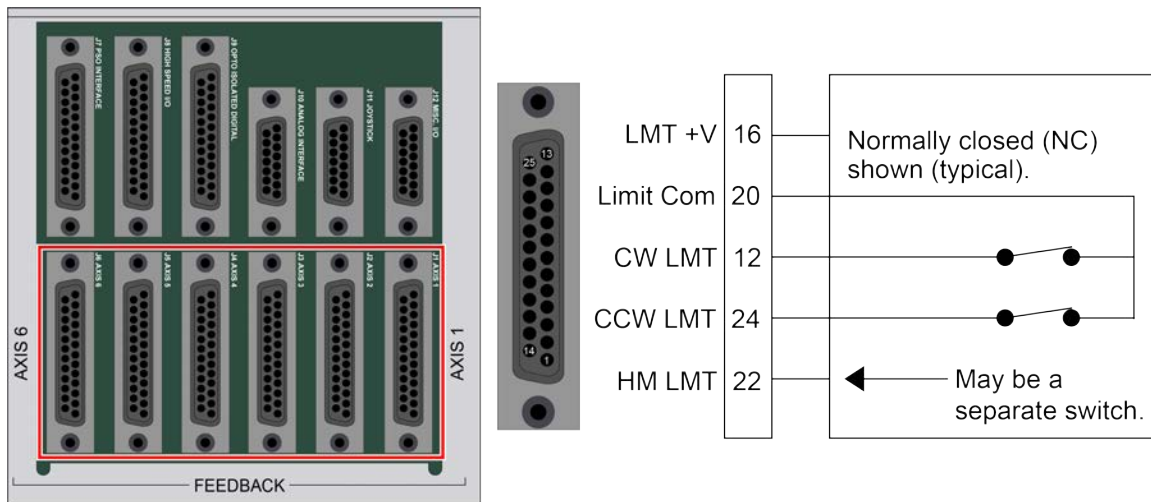

Figure 2-22: End of Travel Limit Input Connections
End of Travel (EOT) limits are required to define the end of the physical travel on linear axes. Positive or clockwise motion is stopped by the clockwise (CW) end of travel limit input. Negative or counterclockwise motion is stopped by the counterclockwise (CCW) end of travel limit input. The Home Limit switch can be parameter configured for use during the home cycle, however, the CW or CCW EOT limit is typically used instead. All of the end-of-travel limit inputs accept 5 VDC level signals. Limit directions are relative to the encoder polarity in the diagnostics display (refer to Figure 2-22).